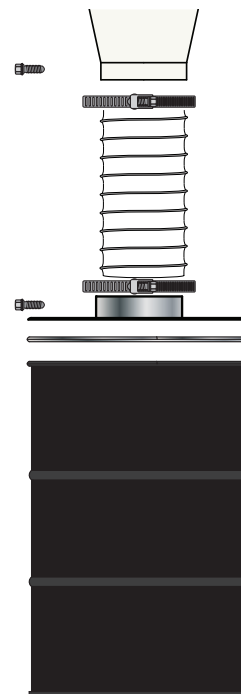

FIG. 18
If you purchased the Single Drum setup, attach the 10" Hose (J) to the Cone's (C) discharge, and secure it in place with the Hose Clamp (I). Position the Drum (L) under the Cone and repeat the process to attach the opposite end of the Hose onto the Lid's Collared Inlet (K) [FIG. 18]. The Drum can now be sealed using the Drum Clamp for operation.